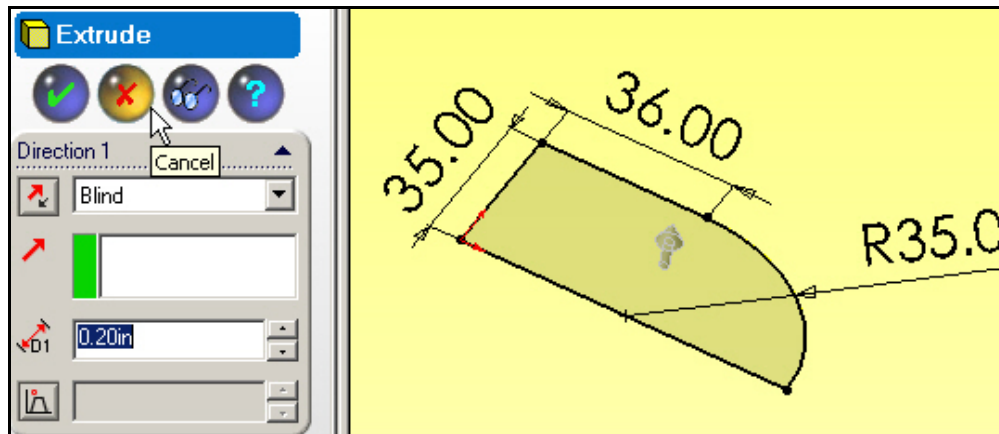

Figure 6 Single direction extrude of the base area
4. Figure 6 where you type in the chosen base thickness and pick **OK** (the green arrow button) to execute the extrude process. This is a thin walled tank, so the extrusion of the bottom is hard to see (